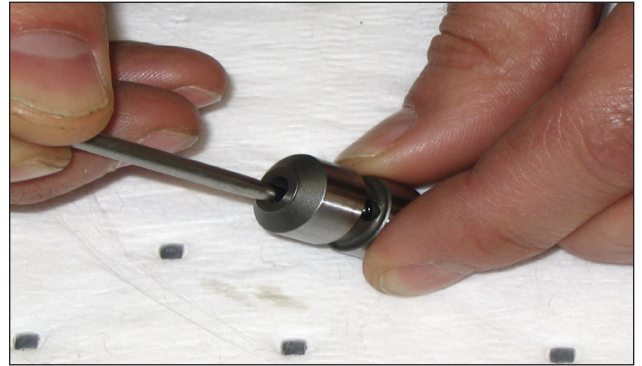

Fig 22
5. Wash the control valves with approved cleaning solvent. Push a wire through the hole in the bottom of the valve to insure that the ball check is free (see Fig. 22). The ball should lift with light pressure on the wire. If the ball is stuck in the valve, the control valve should be replaced. Dry the valve with compressed air and wipe clean with a paper towel.